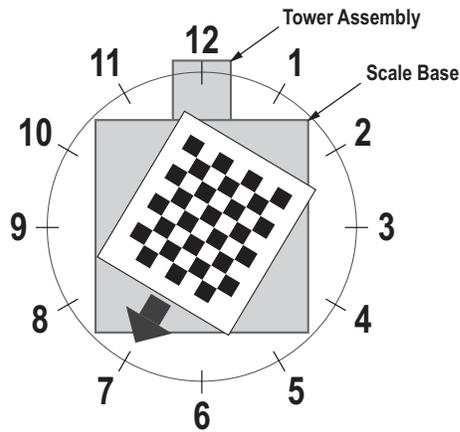

Figure 5-12. Rotate to 7 o'clock
- Align calibration object so the cross hairs are centered. Rotate the calibration object to 7 o'clock with the tower assembly being at 12 o'clock (Figure 5-12).